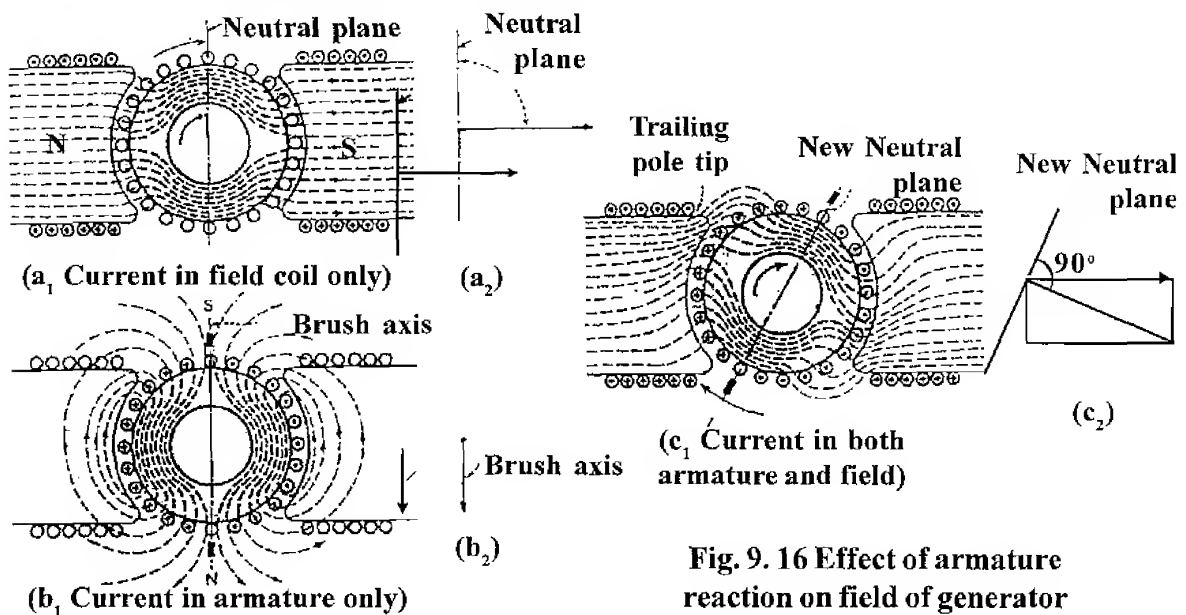
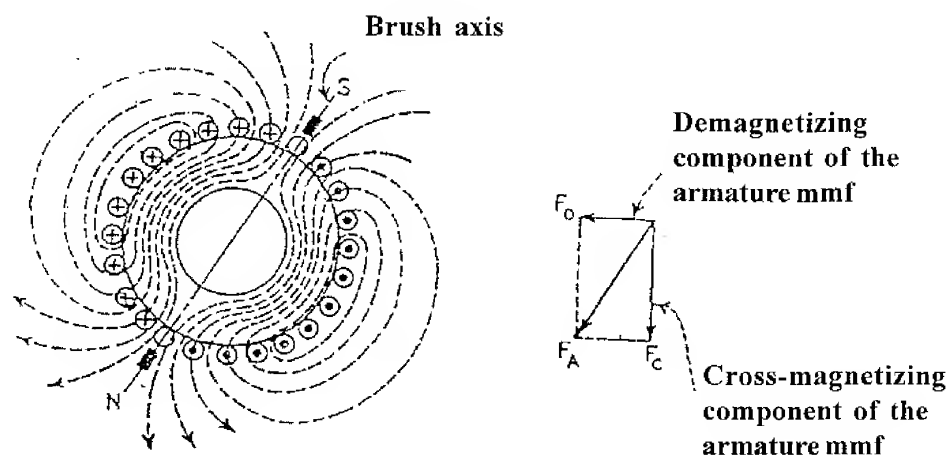

Fig. 9. 16 Effect of armature reaction on field of generator
Fig. 9.16 Relation of armature flux to brush axis
Fig. 9.16 (a1) shows the flux from the field poles through the armature of a bipolar generator when there is no current in the armature conductors. This flux is produced entirely due to the ampere turns of the field windings. Moreover it is distributed symmetrically with respect to the polar axis, that is the centre line of the N and the S poles. The fig. 9.16 (a2) shows a vector F which represents in magnitude and direction of MMF producing this flux. This vector F is acting at right angle to the neutral plan.
In fig. 9. 16 (b1). There is no current in the field coils, but the armature conductors are shown as carrying current. The direction of the current in the armature conductors are shown as if it is loaded. The direction of current in all the conductors is the same that lie under one pole. The direction of the current is away from the viewer on the left side of the armature. This current direction may be checked by Fleming's right hand rule.
Fig. 9. 16 (C1) shows the resultant flux lines obtained when both the field current and the armature current are acting simultaneously, which occurs when the generator is under load. The resultant flux is acting at an angle to the main flux. The effect of armature reaction is shown by a vector F_o in the figure C2. The field MMF vector F and the armature MMF vector F_A act at right angles to each other. The resultant MMF vector is F_o . As the direction of the resultant flux is the same as that of the resultant MMF then the new magnetic neutral axis must be at right angle to F_o . Thus the new magnetic neutral axis advances as shown in fig. 9.16(d).
- (1) The flux due to armature current helps (strengthen) the main pole flux on the left handside at trailing pole tips.
- (2) The flux due to armature current opposes (demagnetize) the mainpole flux on the righthand side at the leading pole tips. There are shows in fig. 9.16 (c) above.